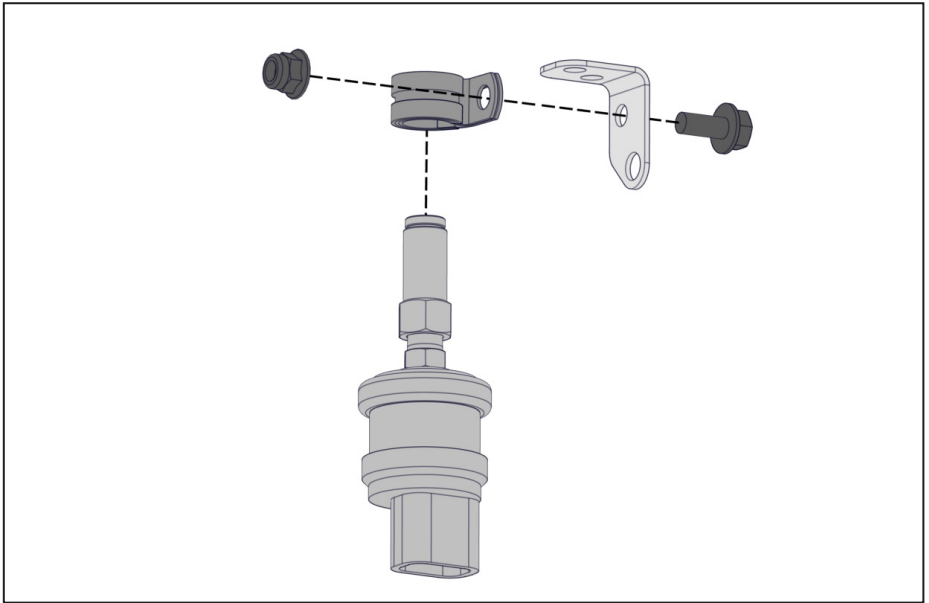

Figure 12 — Assemble pressure switch
- Slide the pressure sensor assembly into the P-clip and mount it to the bracket using the supplied M6 × 1.0 × 14 mm bolt, and M6 nut (Figure 12).